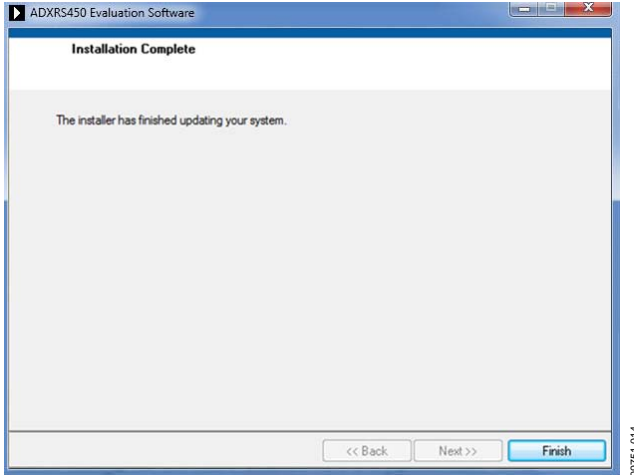

Figure 5. Installation Complete
- To start the installation, click **Next**. The installer completes installation of the software evaluation GUI and all required National Instruments drivers and run-time engines. After the installation is complete, the box shown in Figure 5 is displayed.